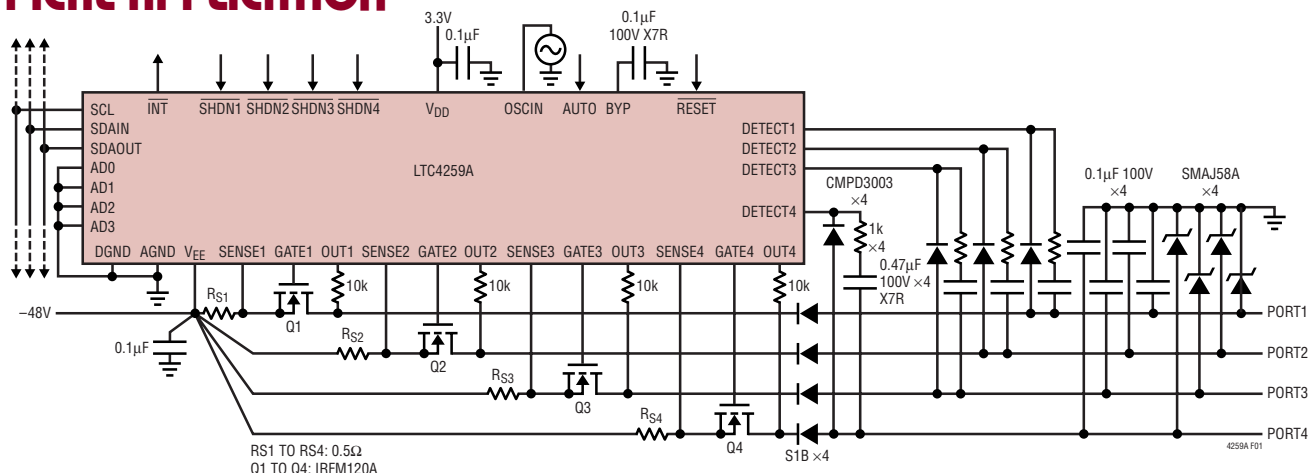

Figure 1. Complete 4-Port Powered Ethernet Power Source
The LTC[®]4259A is a quad –48V Hot Swap™ controller designed for use in IEEE 802.3af compliant Power Sourcing Equipment (PSE). It consists of four independent ports, each with output current limit, short-circuit protection, complete Powered Device (PD) detection and classification capability, and programmable PD disconnect using AC or DC sensing. Used with power MOSFETs and passives as in Figure 1, the LTC4259A can implement a complete IEEE 802.3af-compliant PSE.